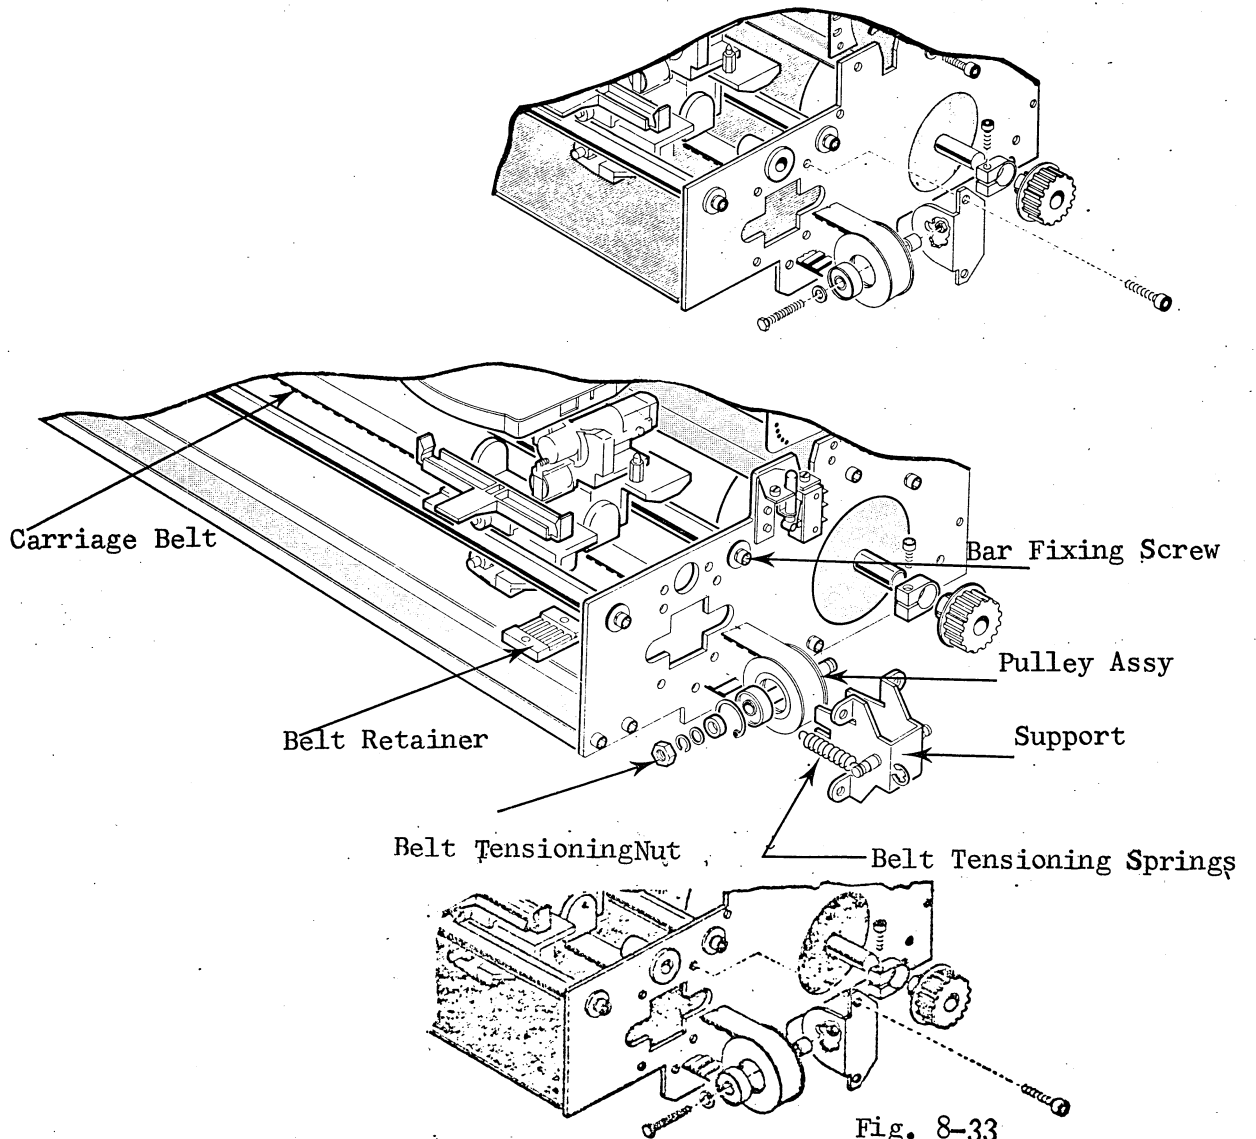

Fig. 8-33
- . Loosen the belt tensioning nut (see fig. 8.33)
- . Mount the belt fixing plate located under the print head (see fig. 8.33)
- . Loosen the belt tensioning nut (fig. 8.33)
- . Loosen the belt tensioning nut (See fig. 8.33)